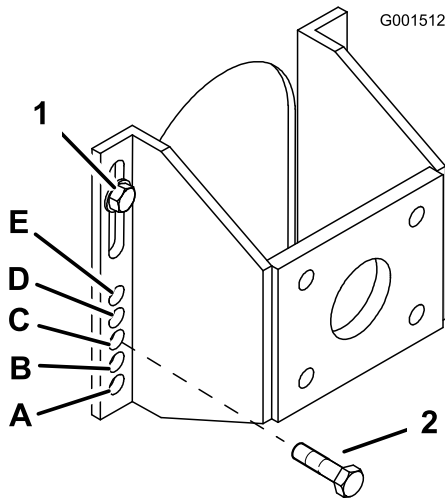

Figure 4
5. Loosen, but do not remove, the 2 top axle bolts (Figure 4).
6. Remove the 2 lower axle bolts (Figure 4).
7. Raise or lower the mounting bracket, so that you can install the 2 axle adjustment bolts in the desired hole location (Figure 4).